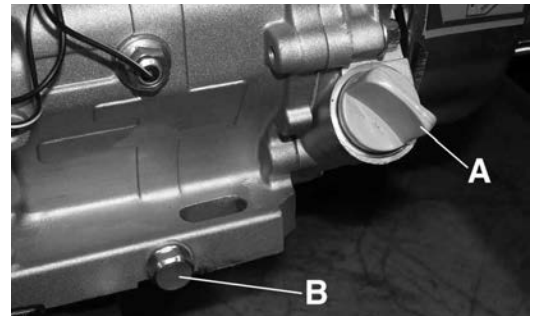

Figure 8
- 1) Loosen the oil gauge dipstick (A) Fig.8.
- 2) Place an oil pan underneath drain hex. bolt (B), remove hex. bolt (B) and drain oil.
- 3) Once all the oil has completely drained, retighten the hex. bolt (B).